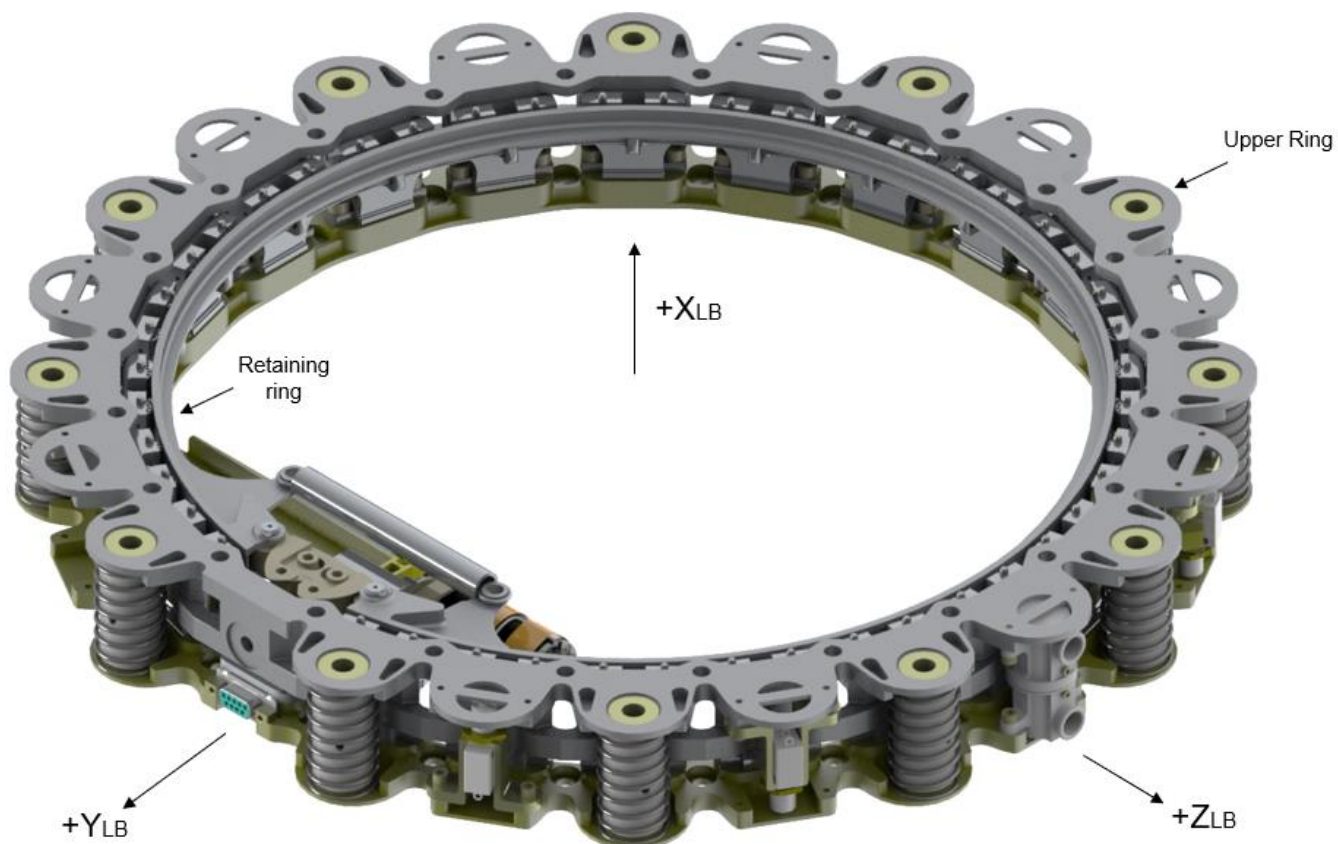
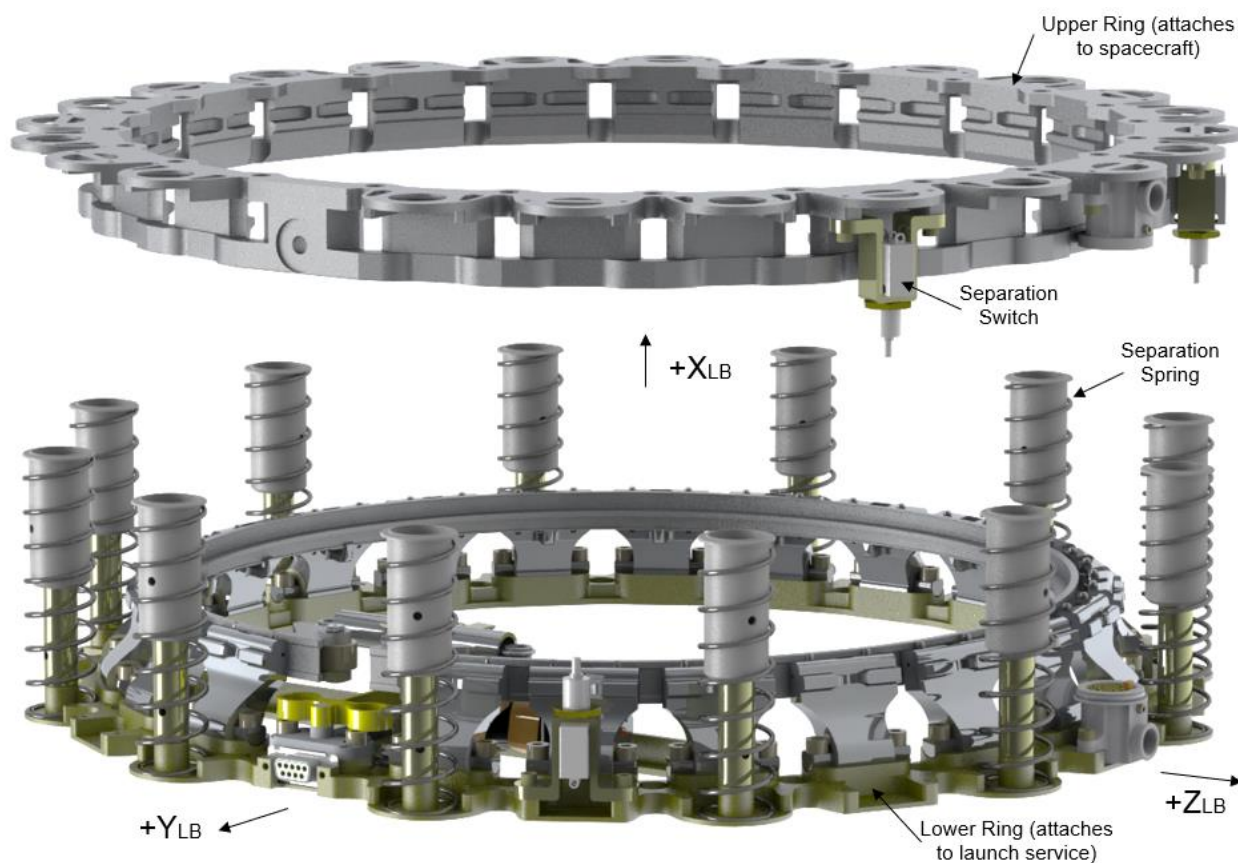

Figure 3-1: ALB15.000-24, Stowed
Figure 3-2: ALB15.000-24, Deployed (also referred to as separated)
The Lightband is comprised of two separable halves. The Lower Ring contains the Hinged Leaves, Retaining Ring, Initiator, and Separation Springs. The Upper Ring, smaller and lighter, contains the Leaf engagement grooves. Typically, the Lower Ring is attached to the launch vehicle (LV) and the Upper Ring is attached to the space vehicle (SV). The electrical interface to operate the Lightband is a DB-9 socket connector on the outside of the Lower Ring +Y side. See Figure 3-1 and Figure 3-2. For more information on the Lightband see PSC document *2003336 Advanced Lightband User's Manual*.